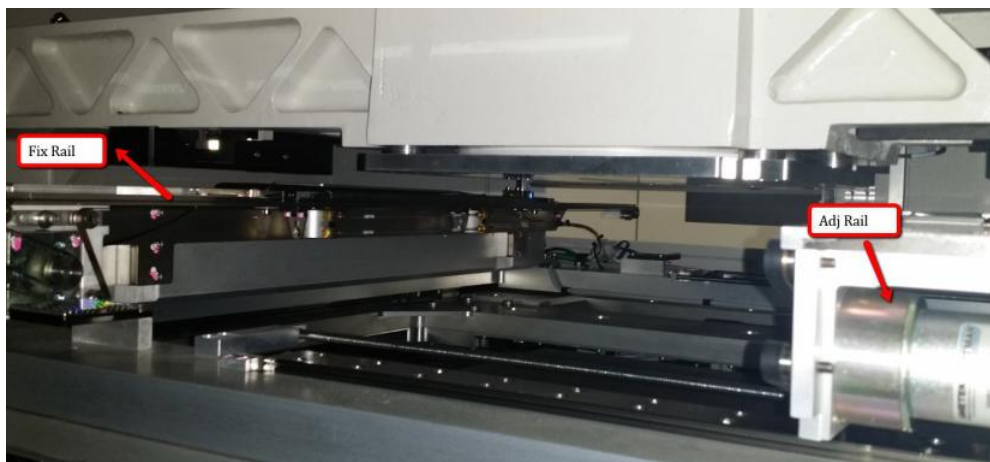

Figure 8
11. Push the XY stage to middle and ensure cylinder down position will not have any obstacle especially with the Clamper as Figure 8.